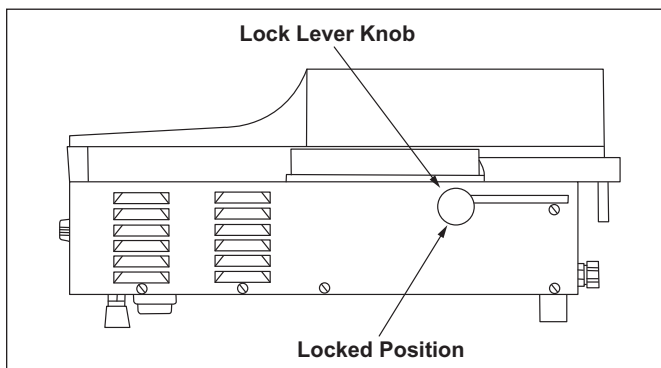

Figure 4. Lock Lever
If the generator should overheat for any reason, the Hi-Limit thermostat opens (trips) and cuts off power to the generator. To reset this Hi-Limit, turn the unit off, unplug the power cord, disconnect the rear water line quick disconnect insert, and allow the unit to cool for 45 minutes. Place unit upside down and remove the four (4) Control Panel screws (Figure 4). Carefully lift the Control Panel upward and lay it on its side. Fully press the red Hi-Limit Reset Button. Reassemble the unit. If the Hi-Limit requires continuous resetting, contact your Authorized Service Agency.